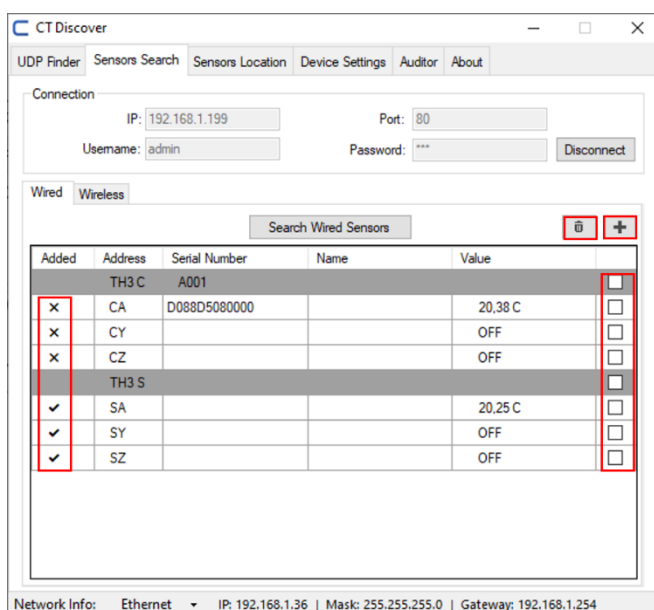

Figure 21 – Wired Sensors Table
- To add sensors, select the checkbox's on last column and click on button to add (+) (Figure 21)
- To remove sensors, select the checkbox's on last column and click on button to remove (✕) (Figure 21)